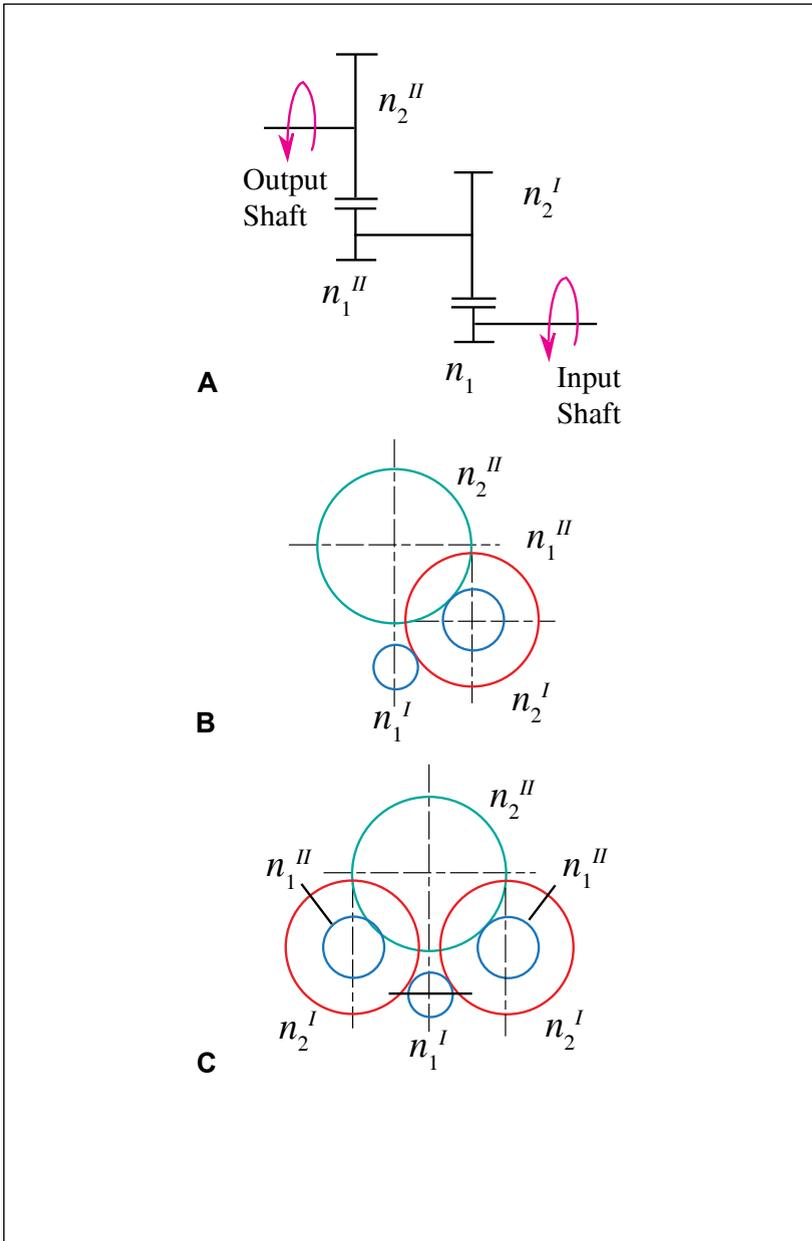

Figure 3—A = two-stage external gear train; B = one-branch arrangement; C = two-branch arrangement.
1. External gear arrangement (Fig. 3)
This gear arrangement provides a more compact and lighter gearbox in comparison with the external gear arrangement (Fig. 3), because the number of the transmission branches (planet gears) is typically three or more. The planet gears in this arrangement are not rotated around the sun gear, which makes their lubrication less complicated. The total gear ratio is:
| | 1 (Fig. 3-B) | 2 (Fig. 3-C) |
| Number of transmission branches | 1 (Fig. 3-B) | 2 (Fig. 3-C) |